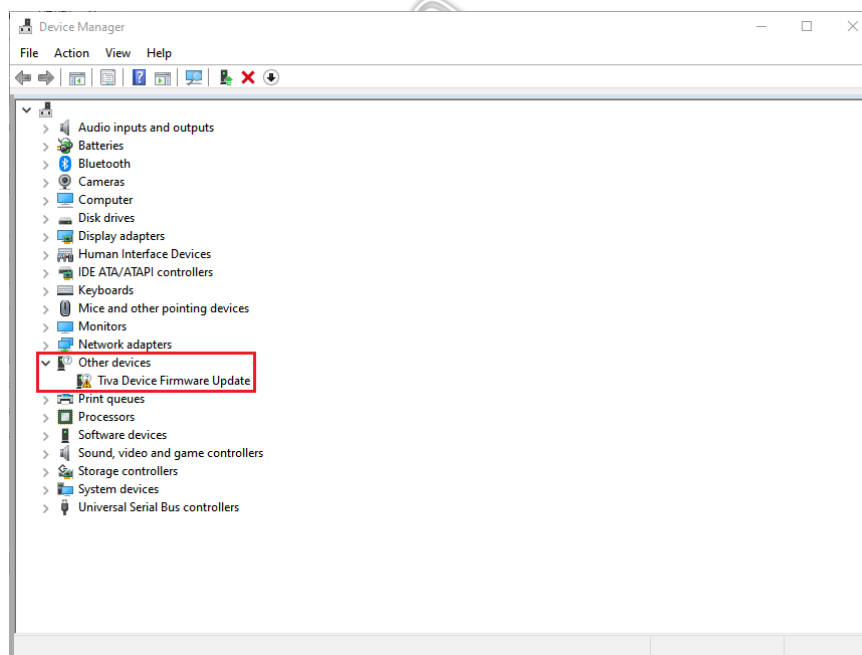

Figure B-1 Device Manager
- 7 If USB driver automatic installation is failed, then there will be an unknown device named “Tiva Device Firmware Update” on the PC’s device manager shown in Figure B-1.